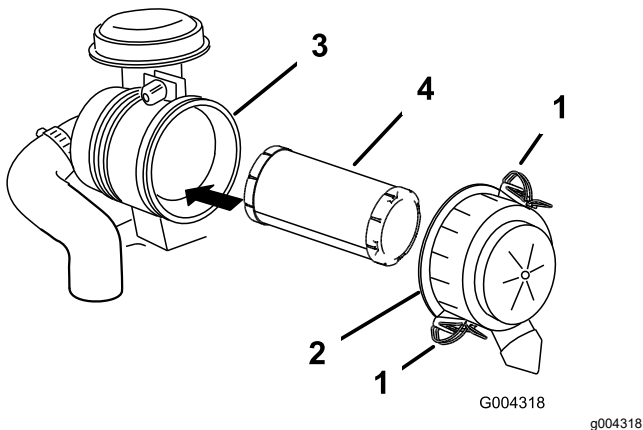

Figure 42
3. Release the latches on the air cleaner and pull the air-cleaner cover off the air-cleaner body (Figure 42).
5. Gently slide the filter out of the air-cleaner body (Figure 42).